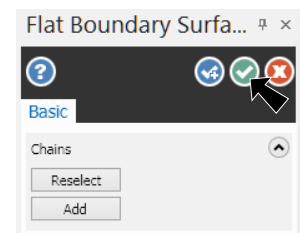

Fig. 23
Step 11. In Flat Boundary Surface function panel click OK . **Fig. 23**.